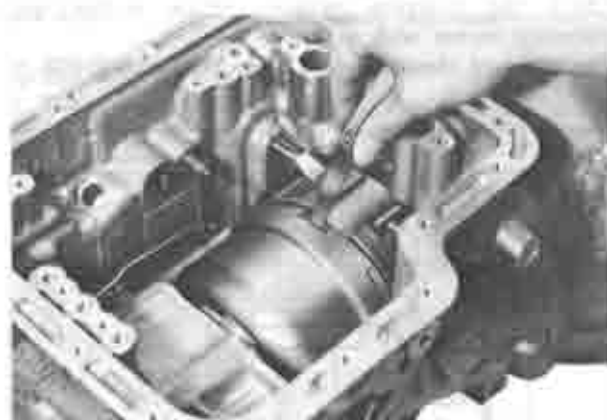

Fig. 7B-53 Checking end play
20. Using a dial indicator as shown in Fig. 7B-54, check the transmission total end play.